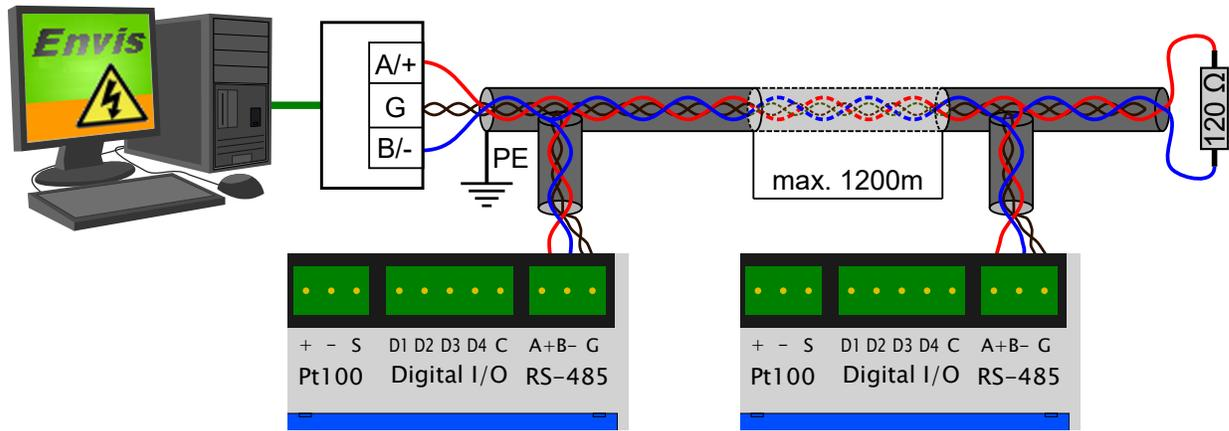

Figure 4: Typical wiring of the RS-485 communication line terminals in ARTIQ 235 .
**RS-485 serial line** provides a communication for reading of actual data, archive downloading and device configuration. Modbus RTU can be also used on this interface. Serial RS-485 line uses terminals  $A+$ ,  $B-$  with shielding at terminal  $G$  of  $COM1$  block (fig. 4). The end-point of the communication line must be properly terminated with  $\sim 120\Omega$  resistor.